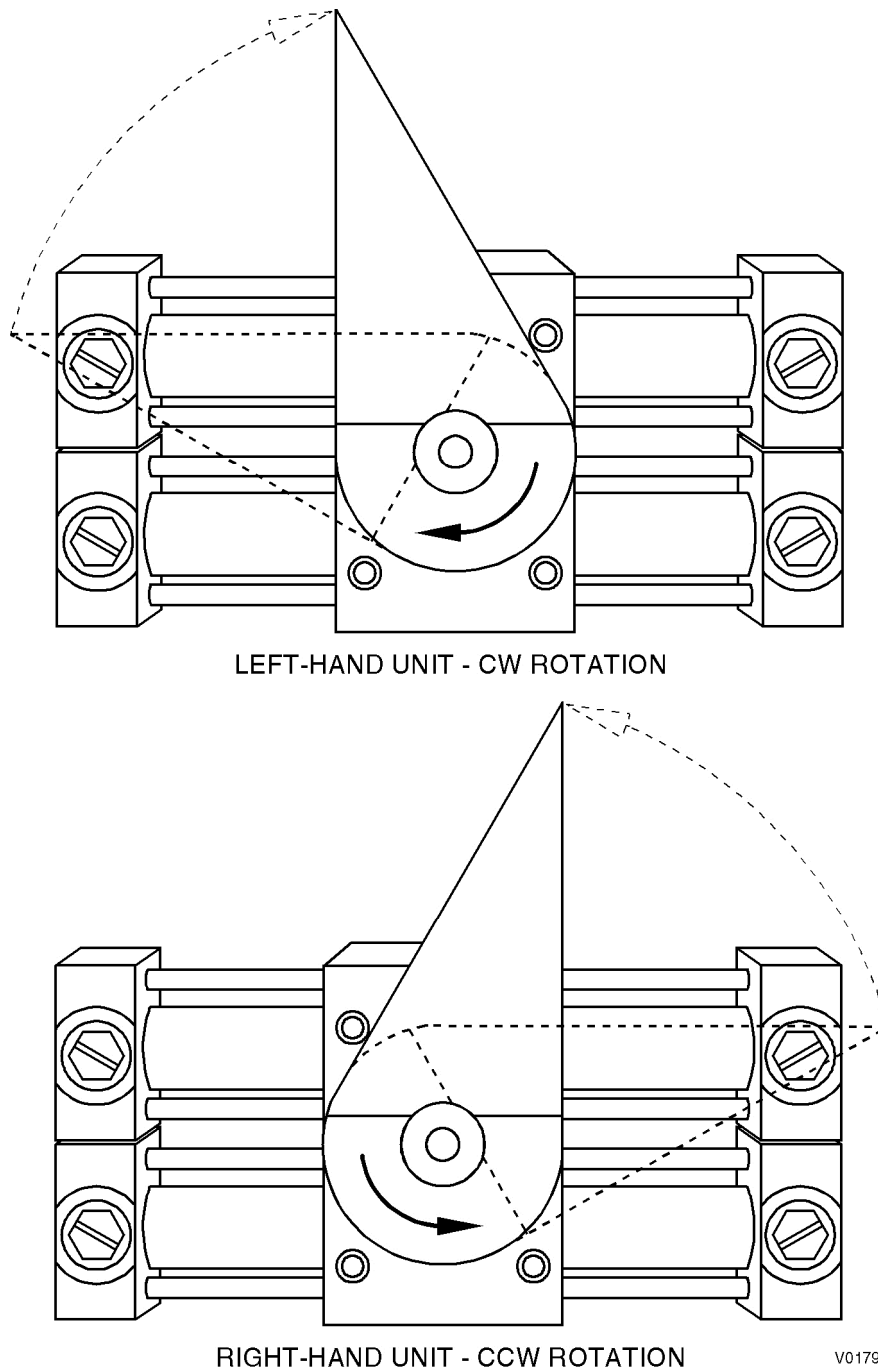

Figure 3-7. Hydraulic Actuator Position
17. Rotate the Hydraulic Actuator drive coupling to the spikes extended (up) position. This is different for left-hand or right-hand configuration systems (Figure 3-7).